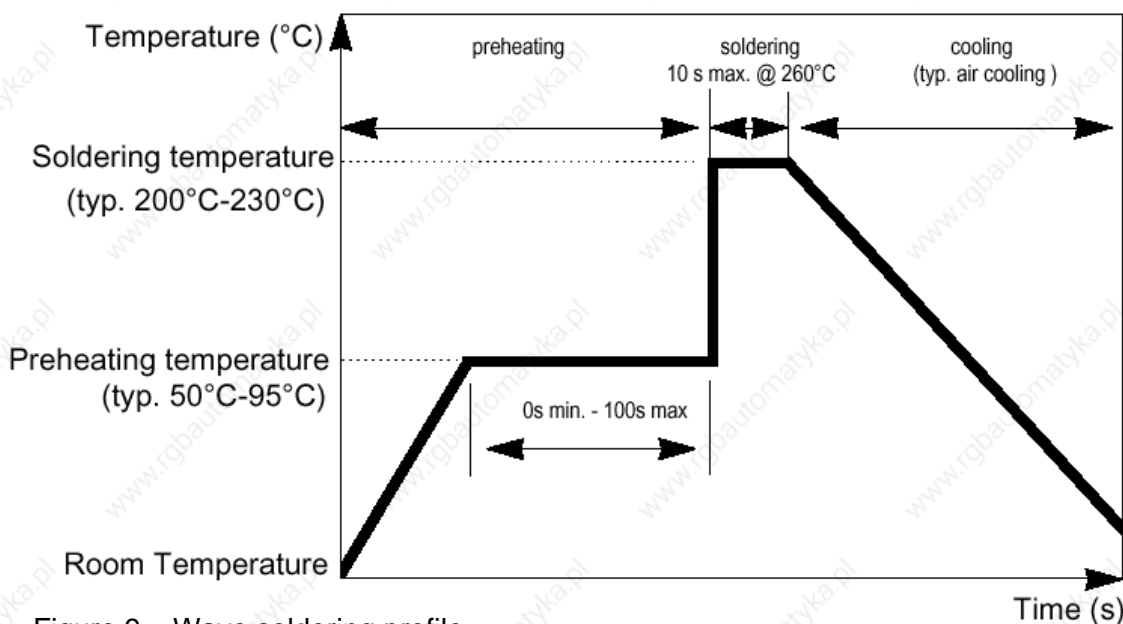

Figure 9 – Wave soldering profile
- do not exceed the maximum wave soldering profile of figure 9;